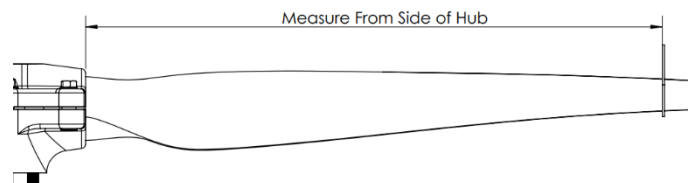

Figure 3: 75% Station Template Location
9. Measure 26" from the side of the hub radially out towards the blade tip and mark the blade at the 75% station for template location. See **Figure 3**.